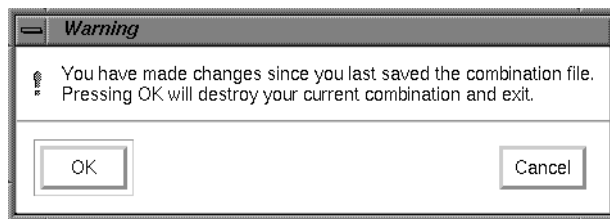

Figure A-9 Exit Warning Dialog Box
12. Click *OK* when the Warning dialog box appears (see Figure A-9).